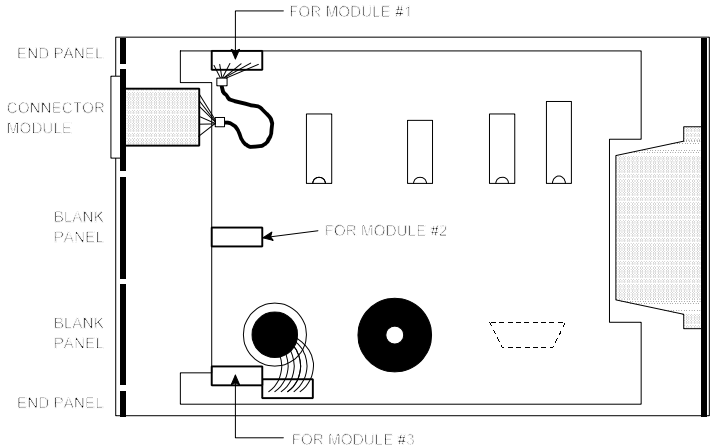

Figure 12 - Installation of connector module.
4. Install the new connector module(s) according to **Figure 12**.
The connector module may be located at any of the three possible locations on the side of the enclosure, and may be connected to any of the three MOLEX connectors located on the left side of the **Sensitest** circuit board, as shown in **Figure 12**.